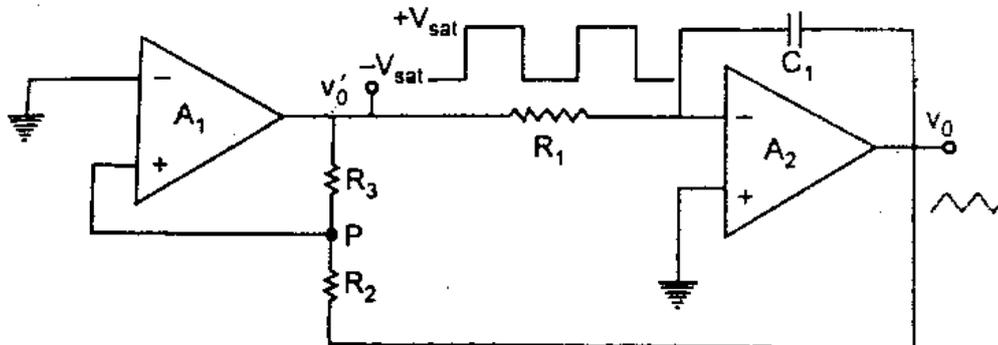

Fig. 3.38 Triangular Wave Generator Using Lesser Components
- Another triangular wave generator using lesser number of components is shown in Fig.3.38.